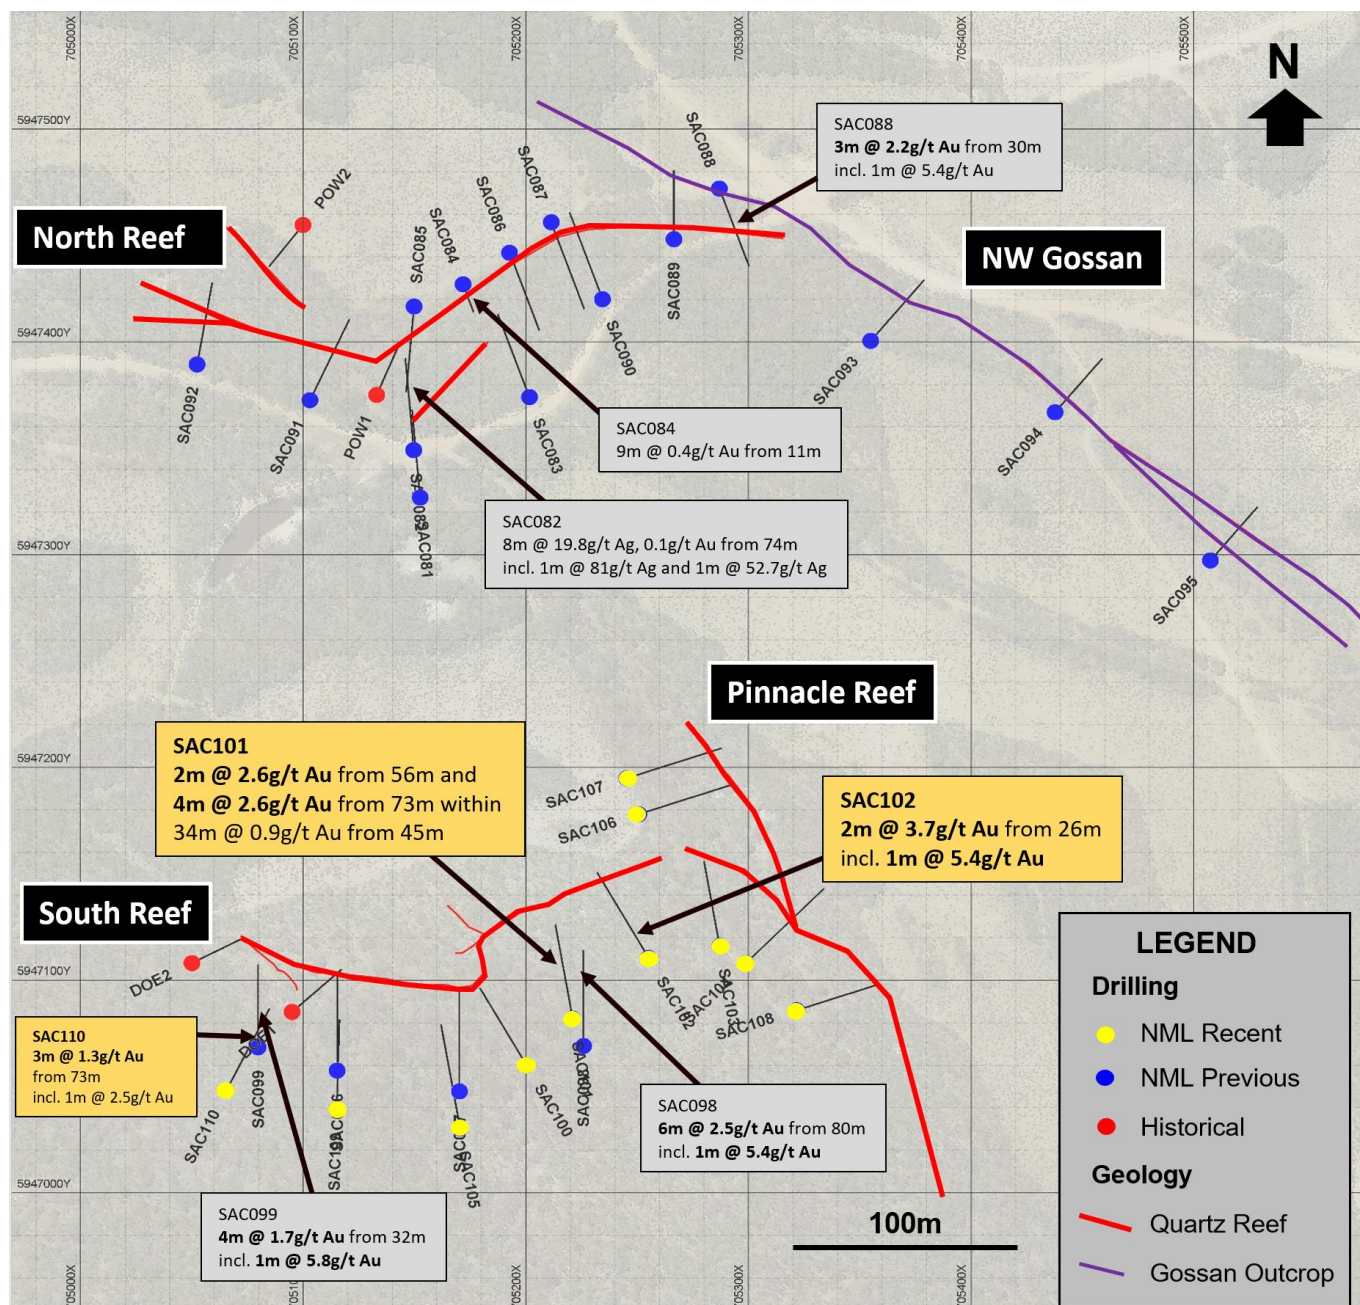

Figure 3: Plan of St Arnaud East targets showing location of recent AC drilling and significant drill intercepts.
The recent drilling occurred at a target located approximately 5km to the east of the historical 0.4Moz St Arnaud Goldfield in an area referred to as the St Arnaud East prospect (Figure 2 and Figure 3). This area has been subject to some minor shallow historical mining between 1865 and 1890, and three shallow RAB drill holes in the 1970s that returned anomalous gold-in-quartz within the range of 0.1 – 1.8 g/t Au.
- The South Reef is a northeast to east-west-trending auriferous quartz reef defined over a strike length of approximately 200m by surface mapping and now via drilling (Figure 3). The quartz reef varies from 2m to 12m in width and dips approximately 60 degrees towards the south. All drilling was angled perpendicular to the South Reef at 60 degrees, therefore all reported widths are close to true widths.